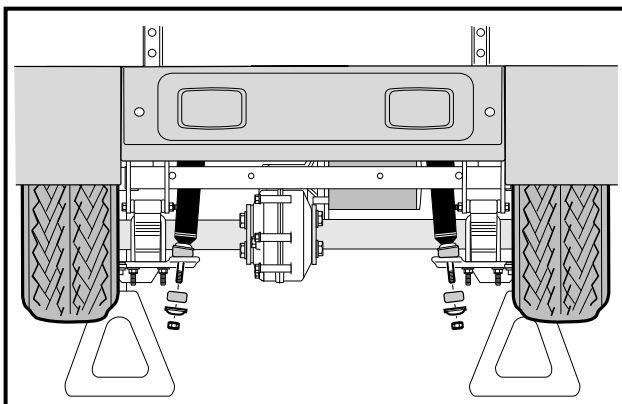
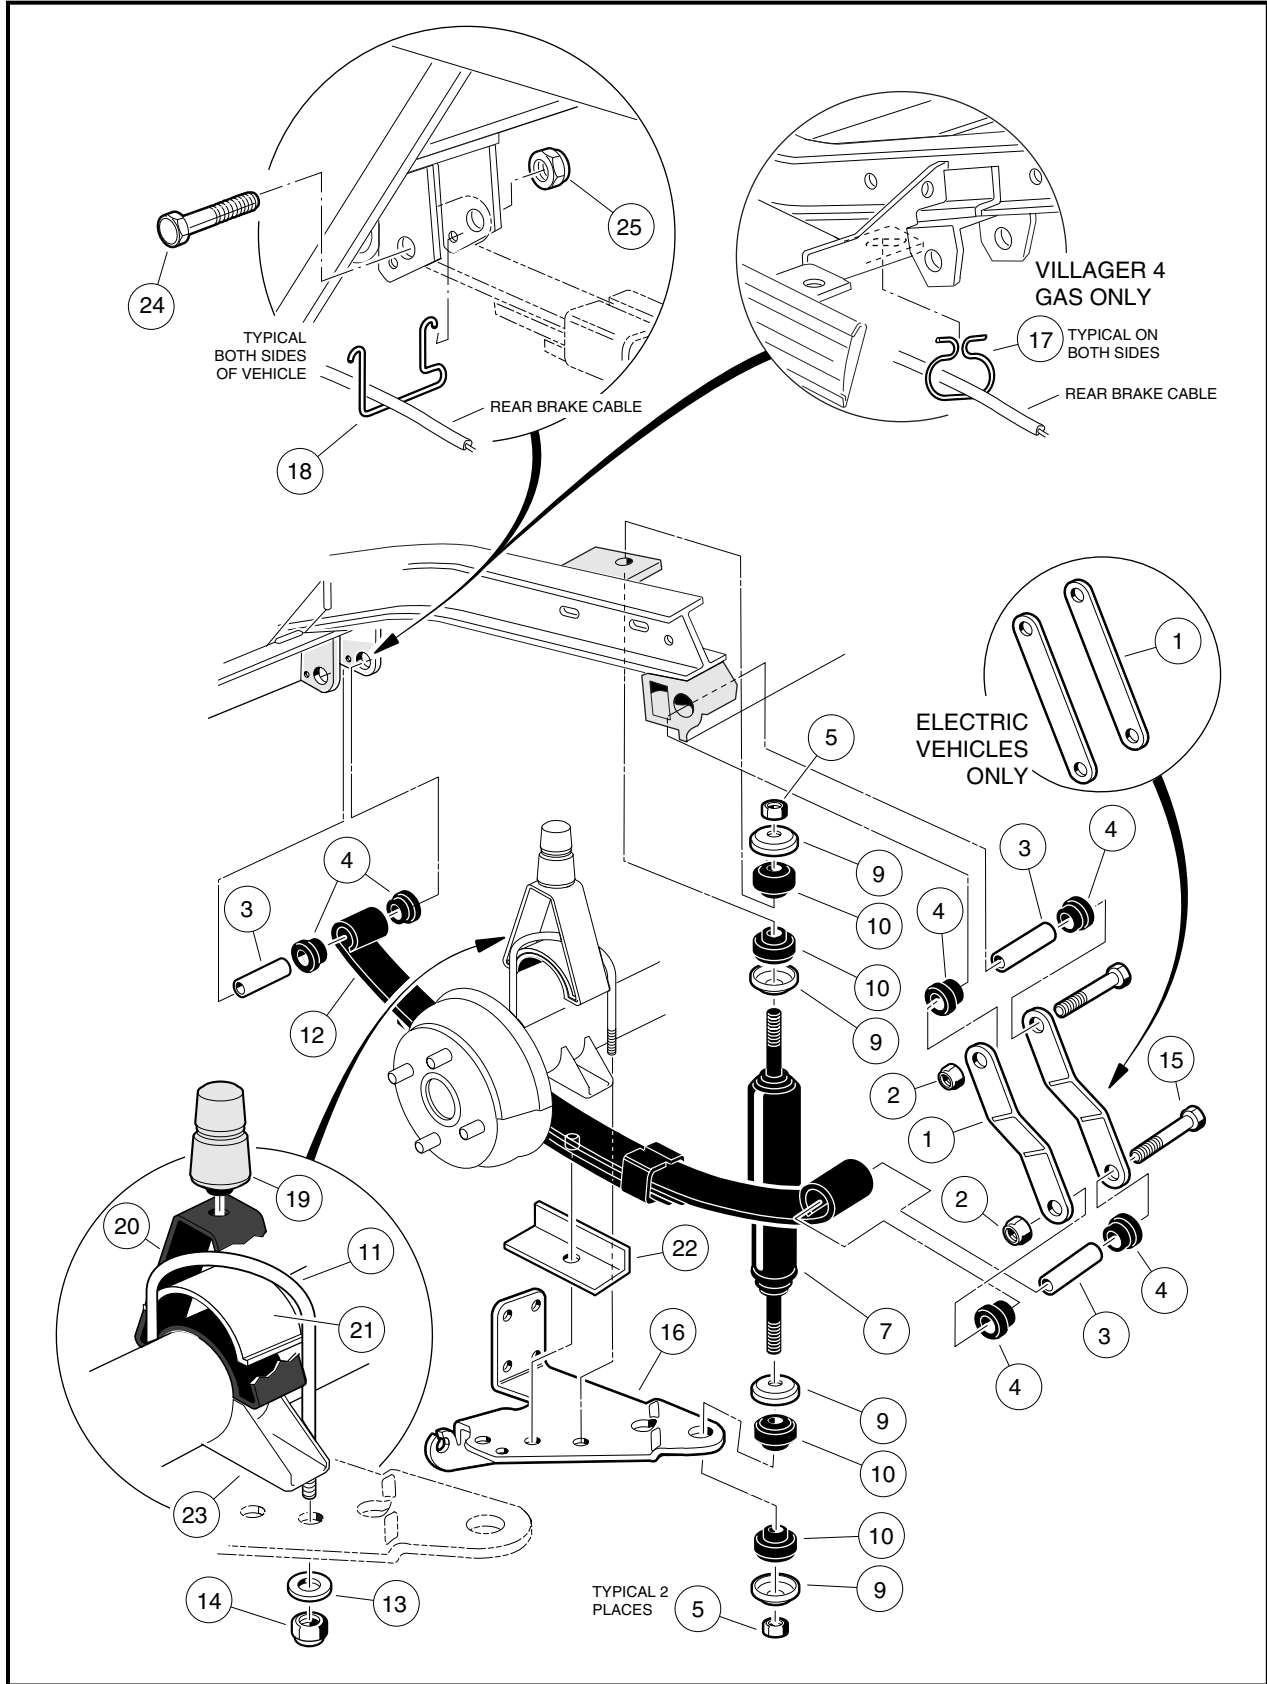
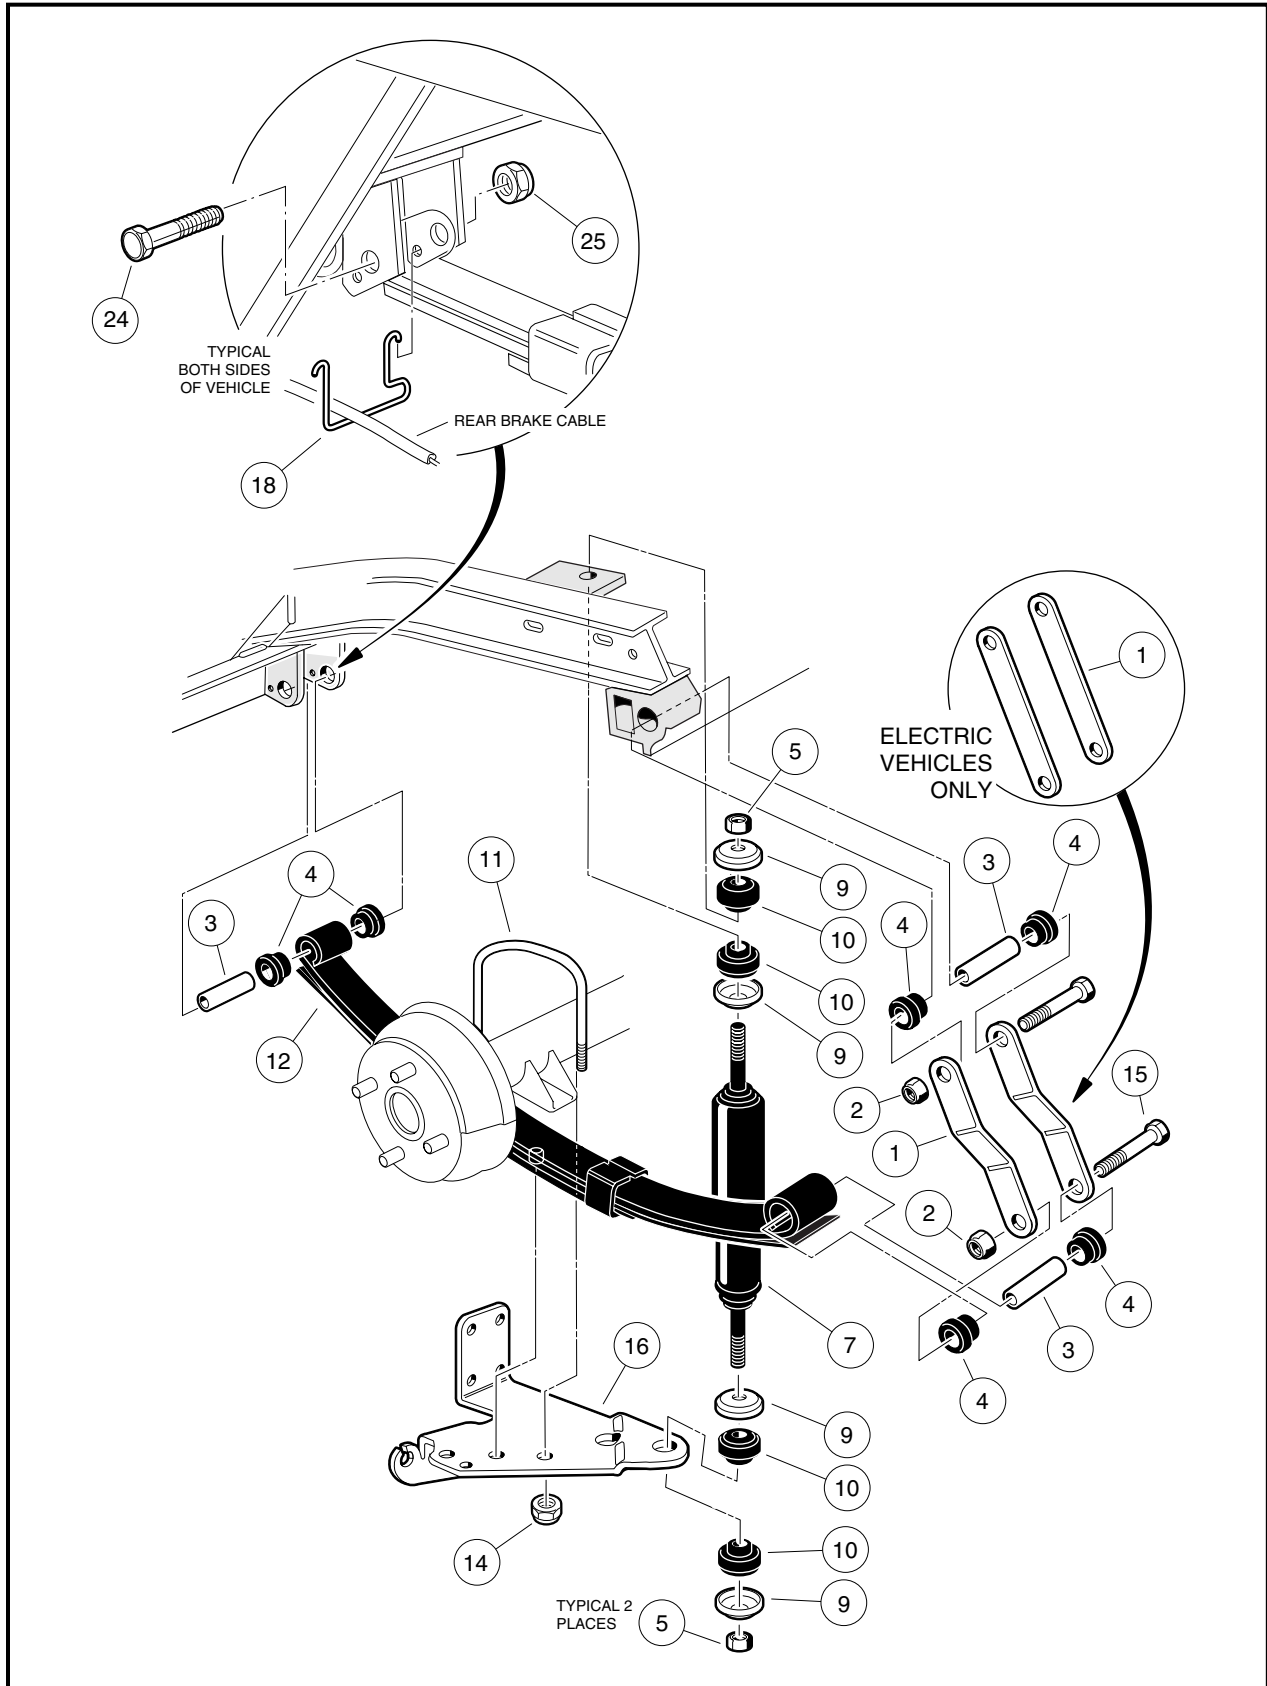

Figure 9-1 Remove Shock Absorbers
Figure 9-3 Rear Suspension – Villager 4 Vehicles
Figure 9-4 Rear Suspension – All Transportation Vehicles Except Villager 4
1. Check shock absorbers (7) for damage and fluid leakage around the lower housing of the shock absorber body. Replace damaged or leaking shock absorbers (**Figure 9-3, Page 9-4 or Figure 9-4, Page 9-5**).
2. To remove a shock absorber (7), remove the nut (5), cup washer (9), and rubber bushing (10) from the upper shock absorber stem.
3. Remove lower mounting hardware (5, 9 and 10) on shock absorber lower mount (**Figure 9-3, Page 9-4 or Figure 9-4, Page 9-5**). See also **Figure 9-1, Page 9-1**.
2. On the upper shock absorber mount, tighten nut (5) until rubber bushing (10) expands to size of cup washer (9) (**Figure 9-3, Page 9-4** or **Figure 9-4, Page 9-5**).
3. On the lower shock absorber mount, install mounting hardware. Tighten the nut (5) until the rubber bushing (10) expands to the same diameter as the cup washer.
NOTE: Villager 4 vehicles are equipped with jounce bumpers *(Figure 9-3, Page 9-4)*.
5. Remove lower nut (5), cup washer (9), and rubber bushing (10) from shock absorber (7) **(Figure 9-3, Page 9-4 or Figure 9-4, Page 9-5)**.
- 6.1. Remove the lock nuts (14) and flat washers (13) (if present) attaching the U-bolt (11) to the shock mount bracket (16). Remove jounce bumper mount (20) and spacer (21) **(Figure 9-3, Page 9-4)**.
- 6.2. Allow shock mount bracket (16) to rotate downward and remove spring retainer (22). Do not disconnect brake cable from bracket **(Figure 9-3, Page 9-4)**.
- 7.1. Remove the lock nuts (14) attaching the U-bolt (11) to the shock mount bracket (16). Do not disconnect brake cable from bracket **(Figure 9-4, Page 9-5)**.
8. Raise axle with floor jack until axle saddle (23) is 1 inch (2.5 cm) above spring **(Figure 9-3, Page 9-4)**.
9. Remove bolt (15) and lock nut (2) attaching the leaf spring (12) to the rear shackle (1) **(Figure 9-3, Page 9-4 or Figure 9-4, Page 9-5)**.
10. Allow rear of leaf spring (12) to rest on the ground and remove the bolt (24) and lock nut (25) attaching the front of the spring to the vehicle frame **(Figure 9-3, Page 9-4 or Figure 9-4, Page 9-5)**. Remove spring from vehicle.
11. Inspect the rubber bushings (4) and steel sleeves (3) in the spring eyes and replace them if they are worn or damaged **(Figure 9-3, Page 9-4 or Figure 9-4, Page 9-5)**.
1. Install rubber bushings (4) and steel sleeves (3) into leaf spring eyes if bushings were removed **(Figure 9-3, Page 9-4 or Figure 9-4, Page 9-5)**.
2. Place front of leaf spring (12) into vehicle frame and insert bolt (24) through frame and leaf spring eye. Install lock nut (25) and tighten to 15 ft-lb (20.3 N·m).
3. Align the other end of leaf spring with the holes in the spring shackles (1). Insert bolt (15) through leaf spring eye and shackles. Install lock nut (2) and tighten to 15 ft-lb (20.3 N·m). Lower transaxle onto leaf spring (12).
- When placing transaxle on spring, be sure to position locating bolt on the spring in the locating hole in the transaxle saddle (23) **(Figure 9-3, Page 9-4)**.
- 4.1. Install spring retainer (22) and shock mount bracket (16) onto locating bolt at bottom center of leaf-spring (**Figure 9-3, Page 9-4**). See preceding **CAUTION**.
- 4.2. Position jounce bumper mount (20) with spacer (21) onto axle tube. Install U-bolt (11), flat washers (13) (if present), and lock nuts (14). Tighten U-bolt to 25 ft-lb (34 N-m) (**Figure 9-3, Page 9-4**).
- 5.1. Install shock mount bracket (16) onto locating bolt at bottom center of leaf-spring (**Figure 9-4, Page 9-5**). See preceding **NOTE**.
- 5.2. Install U-bolt (11) and lock nuts (14). Tighten U-bolt to 25 ft-lb (34 N-m) (**Figure 9-4, Page 9-5**).
1. Grip jounce bumper (19) and pull from bumper mount (20) (**Figure 9-3, Page 9-4**).
1. Insert jounce bumper (19) into bumper mount (20) (**Figure 9-3, Page 9-4**). Make sure the entire circumference of bumper is seated firmly in mounting hole.